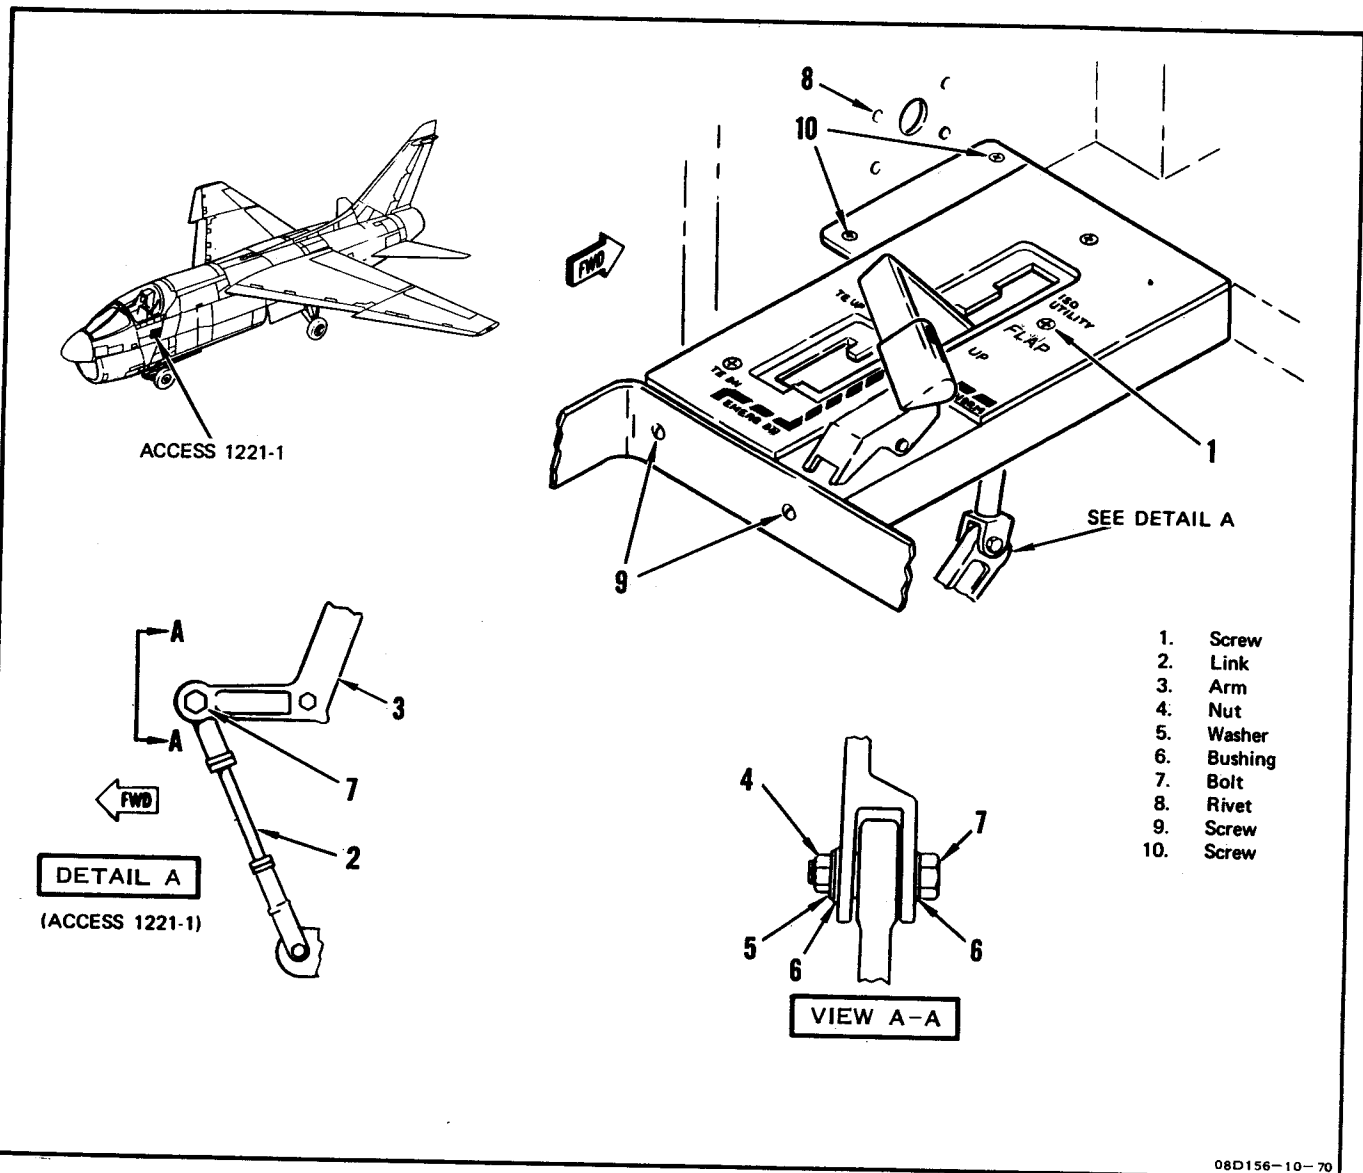

Figure 9-20. Flap Control Assembly Removal and Installation
**9-55. REMOVAL. (See figure 9-20.)**
b. Remove edge-lighted panel attaching screws (1) and remove panel.
9-56. **INSTALLATION.** (See figure 9-20.)